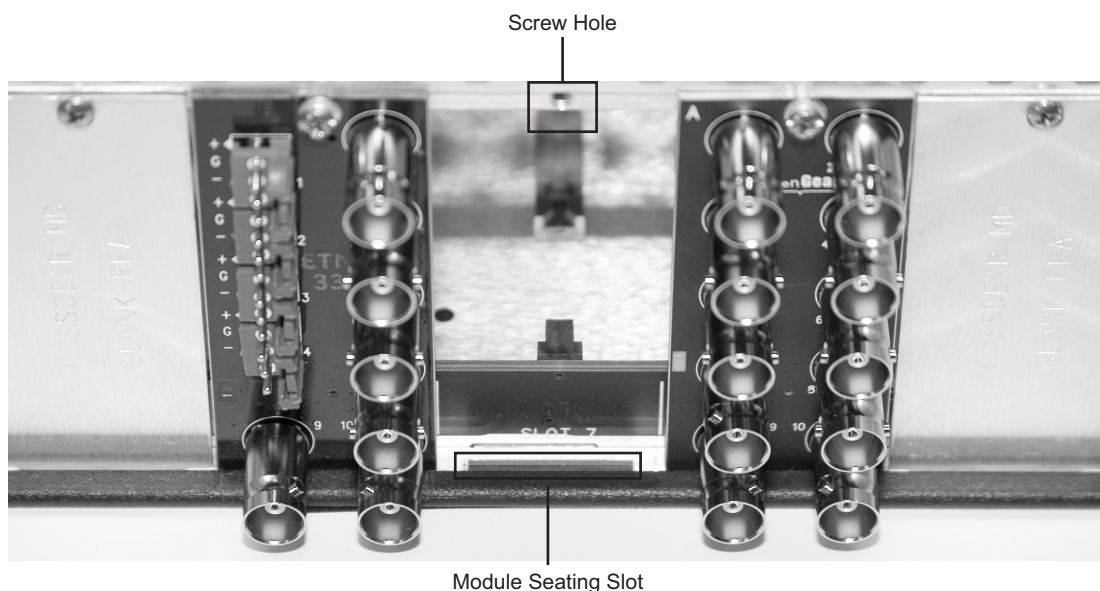

Figure 2.1 Rear Module Installation in a DFR-8310 Series Frame (ADC-8733A not shown)
3. Install the bottom of the Rear Module in the **Module Seating Slot** at the base of the frame’s back plane. **Figure 2.1**